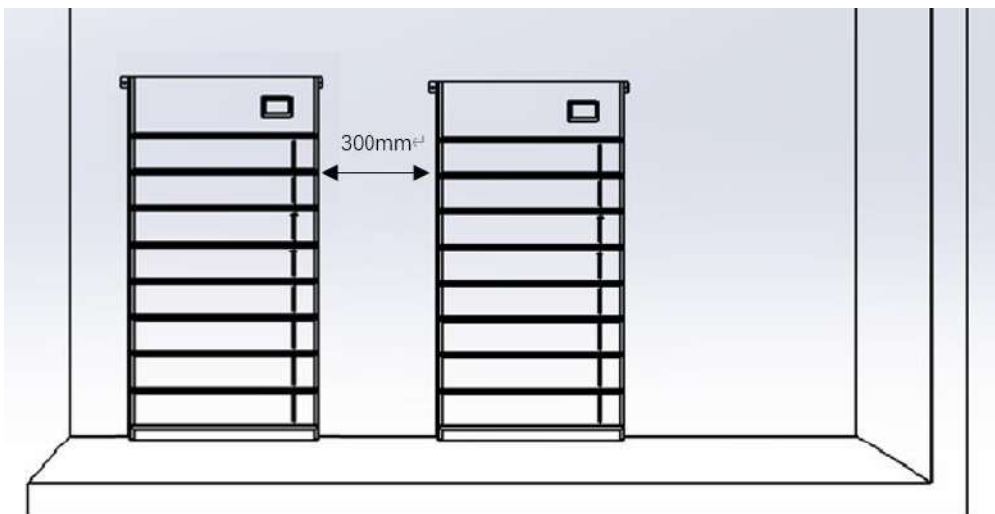

Figure 1
This product is installed and used separately (without containers and cabinets), pay attention to the position of the battery when placing it, and reserve a certain space around it after placing it against the wall, otherwise it will affect the heat dissipation ability of the battery and reduce the performance and service life of the battery; If this product is used with containers and cabinets, please install it strictly in accordance with this manual, and it is strictly forbidden to place and fix it without permission. The placement spacing of the product is detailed in Figure 1, please strictly follow the instructions in the figure for installation.
- (1) Please reserve some space around the battery as shown in Figure 1 to allow the battery to dissipate heat.
- (2) The space above the battery needs to be more than 300mm.
- (3) The space reserved for the left and right of the battery needs to be greater than 200mm, and 300mm is recommended.
- (4) The space in front of the battery needs to be greater than 500mm.